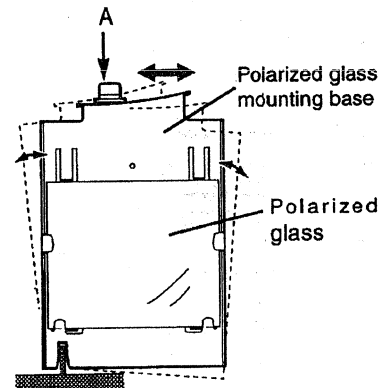

Fig. 14
3. Turn the polarized glass mounting base as shown in Fig. 14, adjust the lowest level in black.